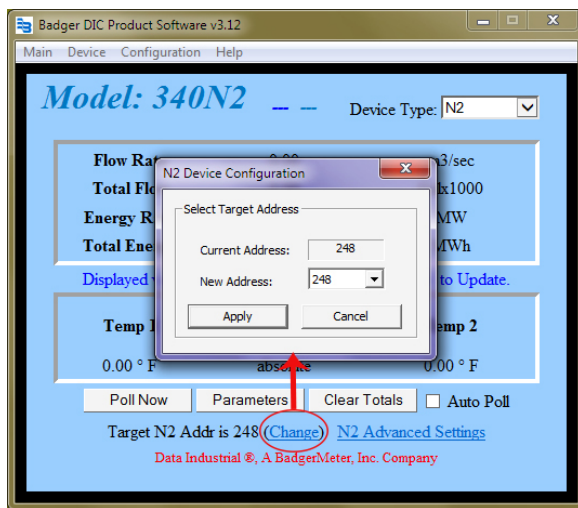

Figure 13: Change Address
- If you know the current transmitter Address, click **Change** to open the Address window and select the correct Address from the drop-down menu. See *Figure 13*. Then click **Apply**.